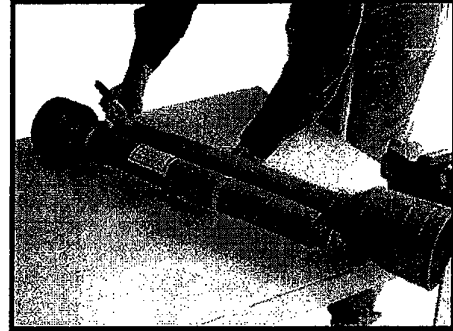

Figure 1-A
**NOTE:** Be sure to cut equal lengths of each PTO shaft section. Clamp end of PTO shaft in a vice and cut off shield where marked. (Figure 1-A & 1-B)